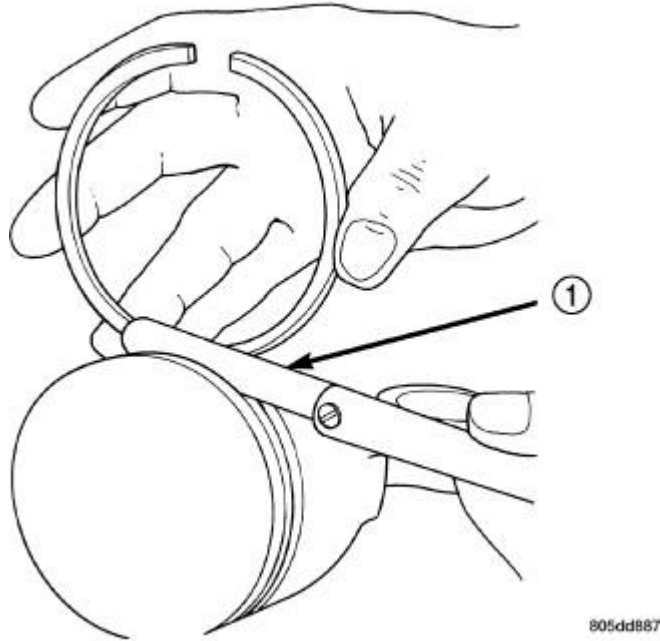

Fig. 119: Checking Piston Ring Grooves Clearances
5. Measure the ring side clearance as shown in **Fig. 119** make sure the feeler gauge (1) fits snugly between